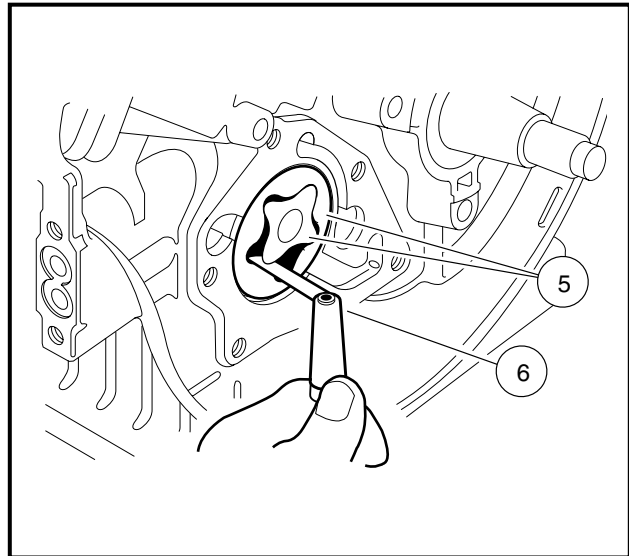

Figure 13-65 Measure Rotor Clearance
1. Check the clearance between the inner and outer rotors (5) with a feeler gauge (6). Measure the clearance between the high point of the inner rotor and the high point of the outer rotor (**Figure 13-65, Page 13-33**).